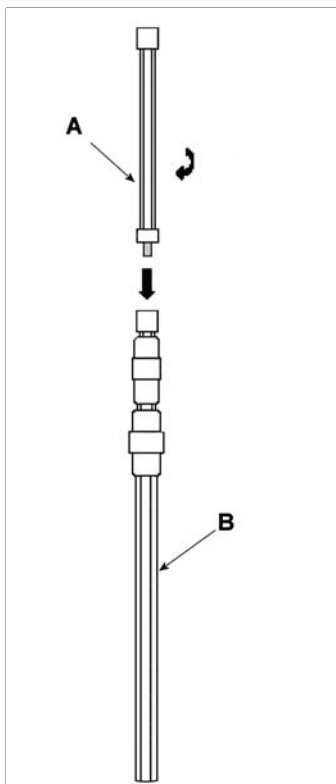

Figure 3
1. Screw the *Pole Extension* (A) onto the *Telescopic Pole* (B) as shown in Figure 3.
Note: Figures 3, 4, and 5 show the *Telescopic Pole* in its collapsed position.